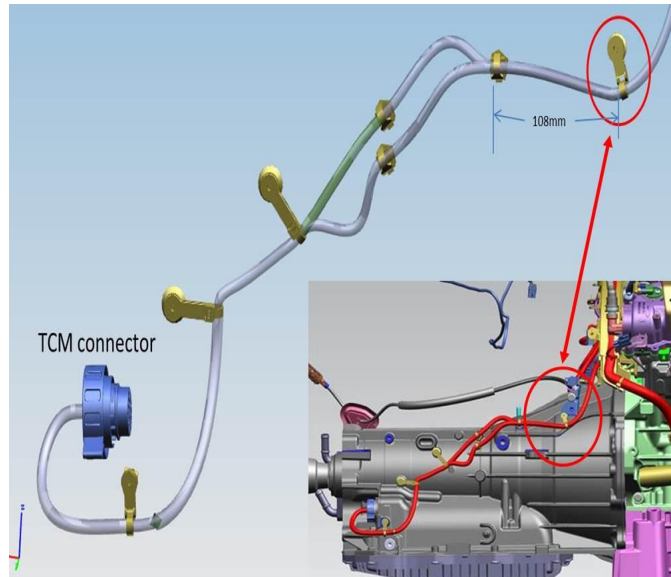

Fig. 3 Retainer After Replacement
5. Replace the retainer clip with new part (P/N is 68078700AE). Place the new clip 108 mm (4.25 in.) from split (Fig. 3).